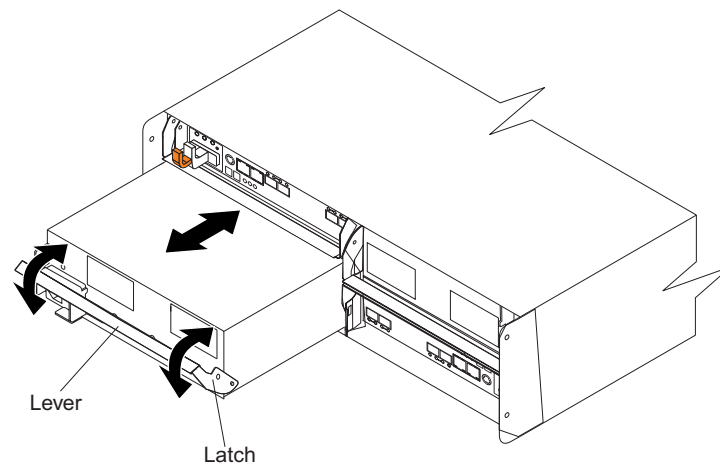

Figure 83. Replacing a power supply and fan unit
Use the following procedure to replace an ac power supply and fan unit. Figure 83 on page 145 illustrates removing and inserting a unit.
11. Slowly pull the lever away from the chassis to remove the power supply and fan unit, as shown in Figure 83 on page 145.